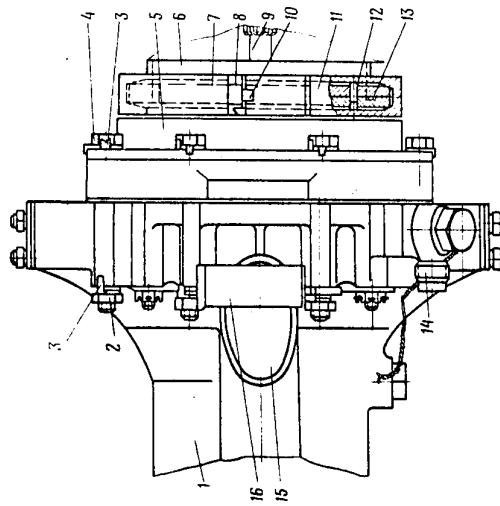

Fig.15. Attachment of HP-10A Pump
20. Place the quick release joint ring onto the flange of the HP-10A pump so that the right-hand hole for the retaining dowel should be located opposite to the bolt, to the right of the boss bearing the name plate; fit a gasket under the ring (Fig.15). Fit in the holding-down bolts, having placed locking washers under their heads.